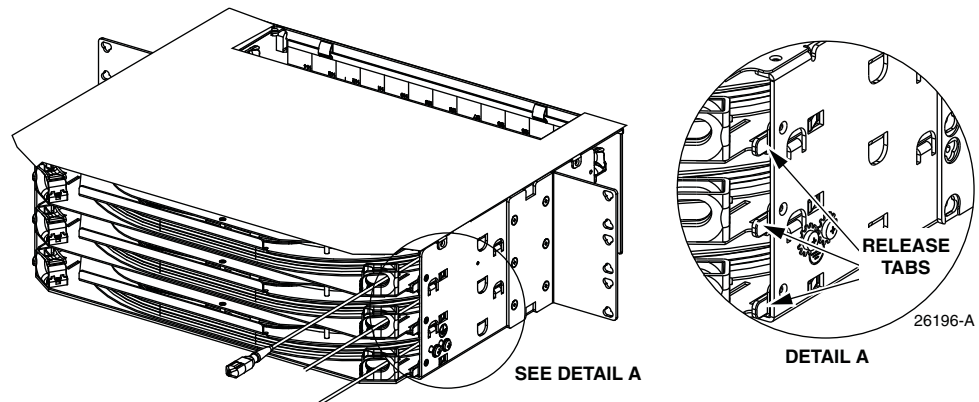

Figure 25. Press Release Tabs To Withdraw Spool Assembly
- b. Working from the **rear** side of the panel, press the two release tabs located on the left and right sides of the RapidReel cable spool tray as shown in Figure 25. With both tabs held down, withdraw the cable spool tray from the rear side of the panel shell.